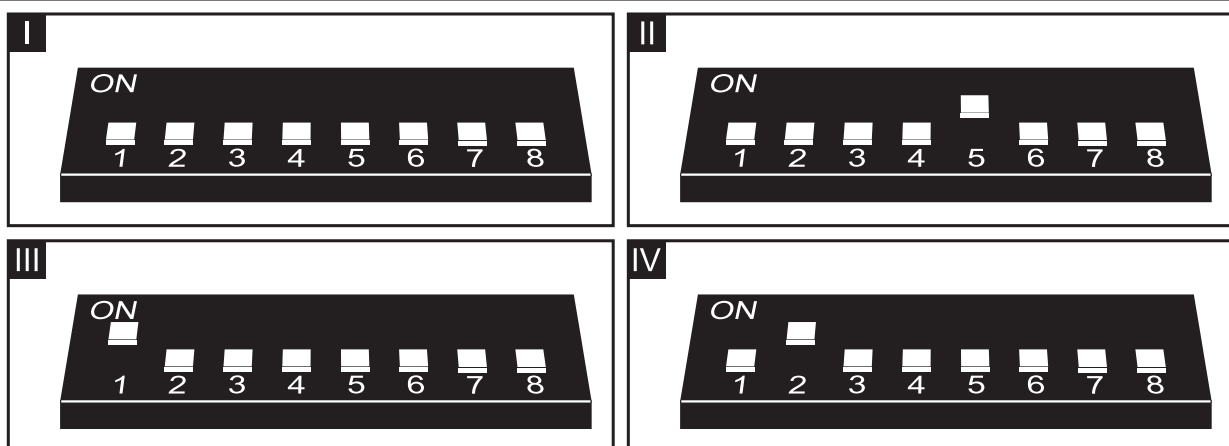

Fig. 2. The way of setting DIP-switches for the operating modes described above.
2. Set the DIP-switches as required for the selected operating mode (see: Fig. 2).